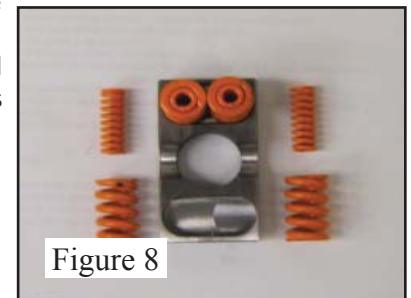

Figure 8
8. Insert the four large springs into the spring pockets machined into one of the case halves. Then insert the 4 smaller springs into the 4 larger ones. See figure 8.